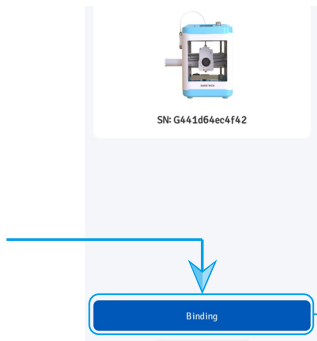

Figure 23
07. Tap the “Bind” button, as shown in Figure 23, to complete the 3D printer binding.